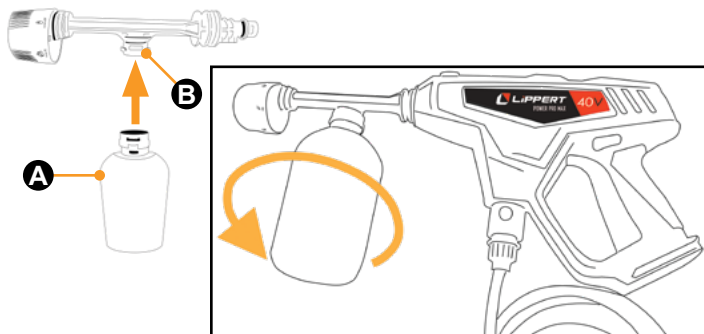

Fig.10
2. When viewing power cleaner from the orientation shown in figure 10, twist bottle to the left to secure it in place.
3. When viewing the portable power cleaner from the orientation shown in figure 10, twist the additive bottle to the right to disengage the bottle from the nozzle.